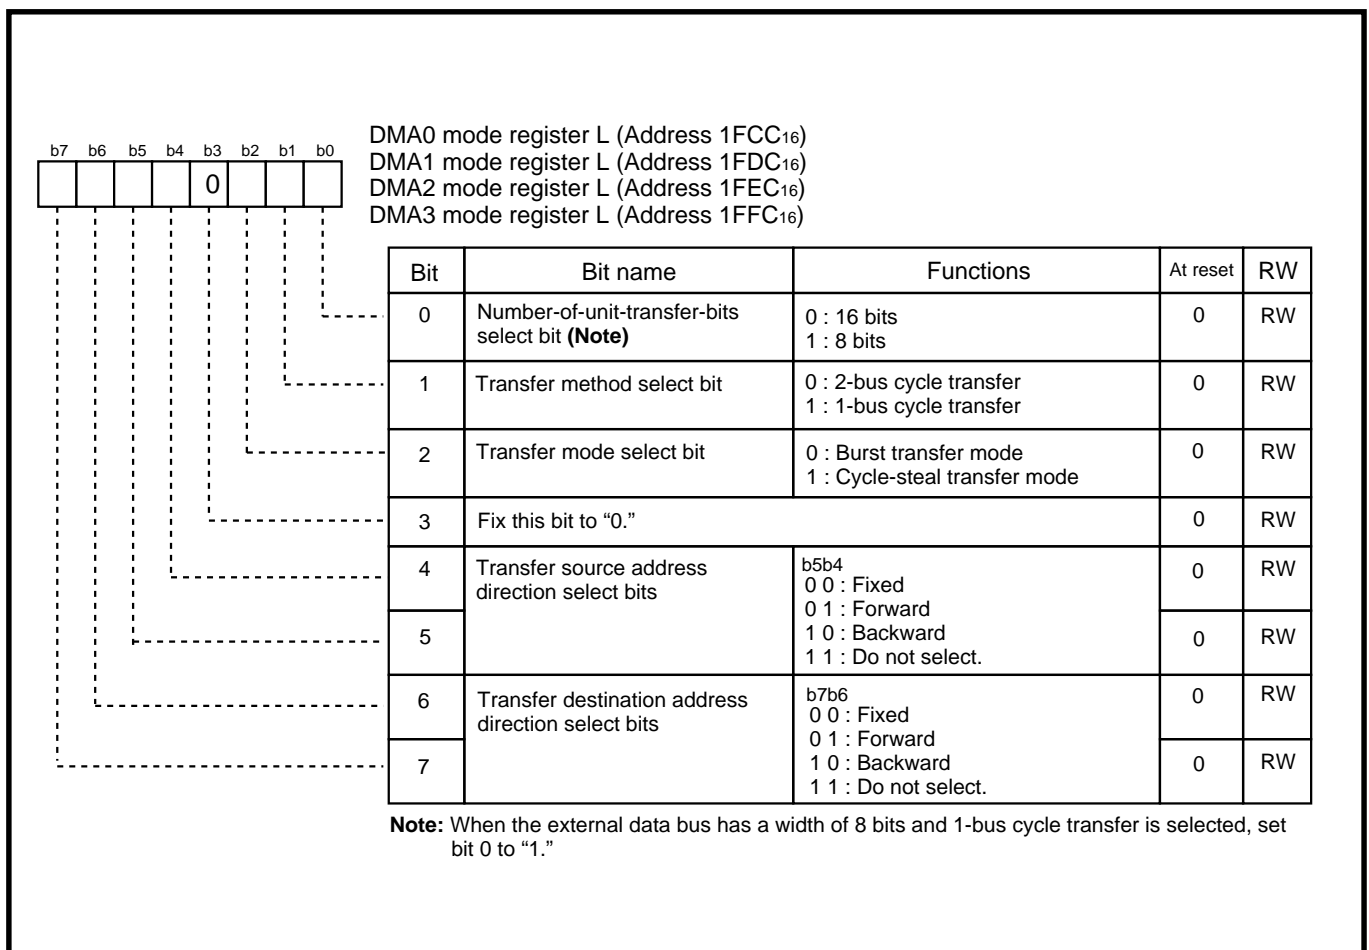

Fig. 13.2.6 Structure of DMAi mode register L
Figure 13.2.6 shows the structure of DMAi mode register L. For bit 0, refer to section “13.1.3 (2) Transfer unit.” For bit 1, refer to section “13.4.1 2-bus cycle transfer” and section “13.4.2 1-bus cycle transfer”; for bit 2, refer to section “13.4.3 Burst transfer mode” and section “13.4.4 Cycle-steal transfer mode.”
**(1) Transfer source address direction select bits (bits 4 and 5) and Transfer destination address direction select bits (bits 6 and 7)**